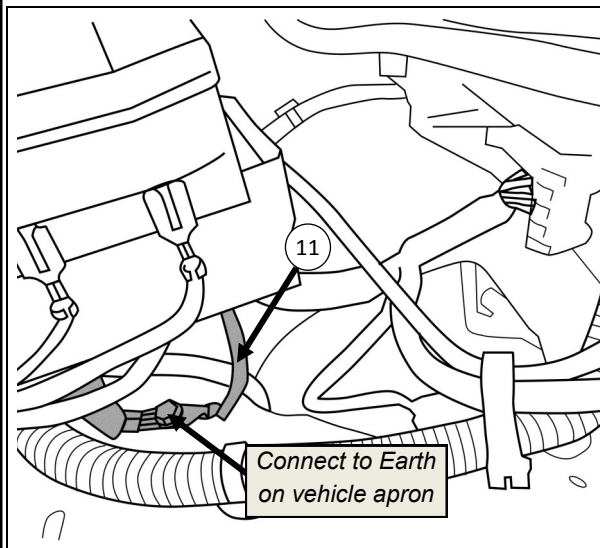

Figure 23: Connect to vehicle Earth
- Connect Earth Ring Terminal on ground branch of Winch Controller Harness (Item 11) to vehicle Body on LH apron as shown in Figure 23.